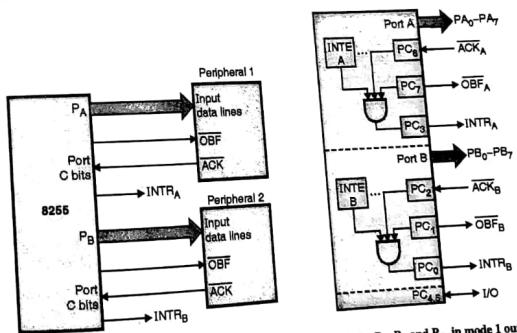

Fig. 9.11.7 : Mode 1 : Output mode interfacing
- The port A, port B and handshake signals are interfaced with peripheral as shown in Fig. 9.11.7. The aim of interfacing is to transfer data from CPU to peripheral through 8255.